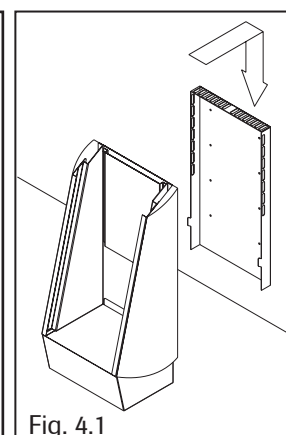

Fig. 4.1
- Set the sauna stove in the fittings in the wall fixing plate (Cf. Fig. 4.1)